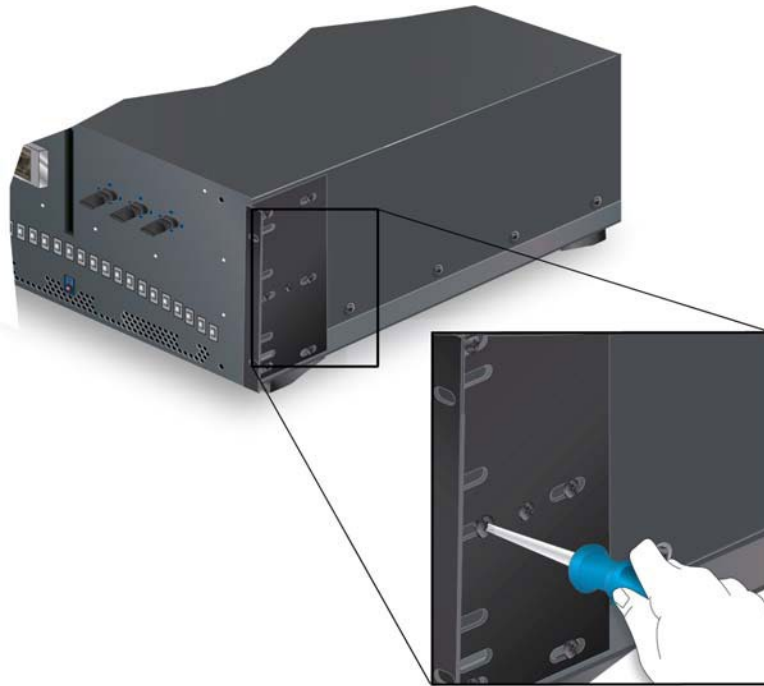

Figure 2
3. Take off the rack ears using a 2.5 mm hex screwdriver to remove the 7 screws that hold them on each side of the chassis. See Figure 2.